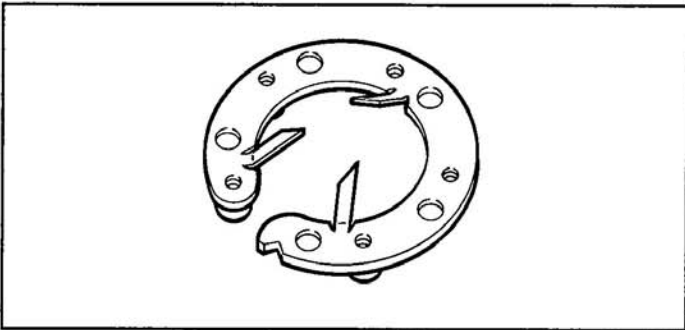

Fig. 7
12. Hold the backing plate with the threaded nuts facing downward. Bend the tabs up at about a 45° angle, as in Fig. 7.